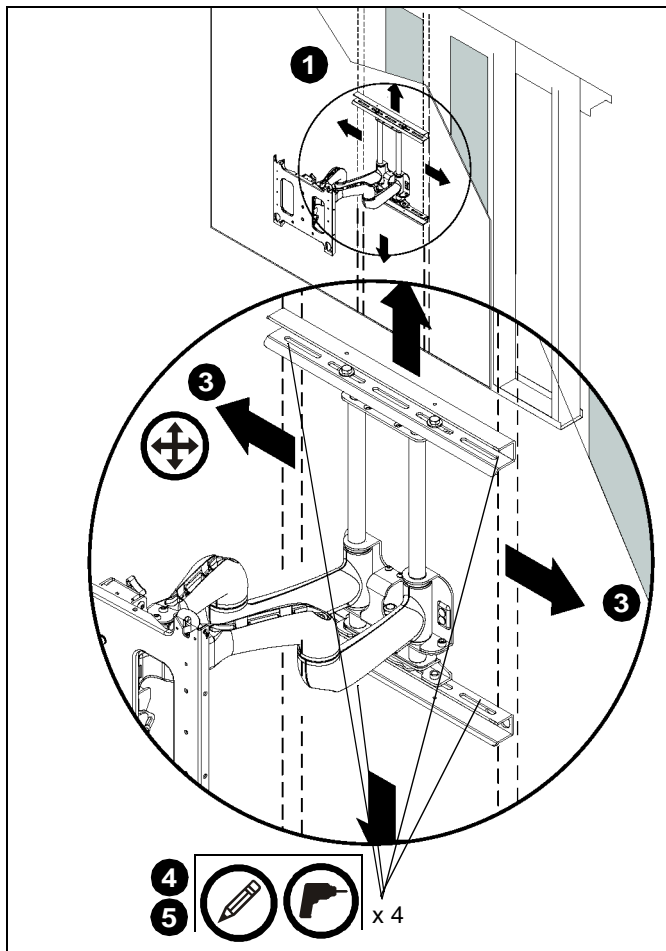

Figure 1
2. Using a stud sensor locate two wood studs 16" on center. (See Figure 1)
3. Place and level mount against wall, aligning mounting holes in upper and lower wall channels with studs. (See Figure 1)
4. Mark four mounting holes making sure mounting holes are located as close as possible to center of studs. (See Figure 1)
5. Drill four 7/32" pilot holes where the mounting holes were marked. (See Figure 1)
1. Thread cable ties (J) under cable clamps in mount arms. (See Figure 1)